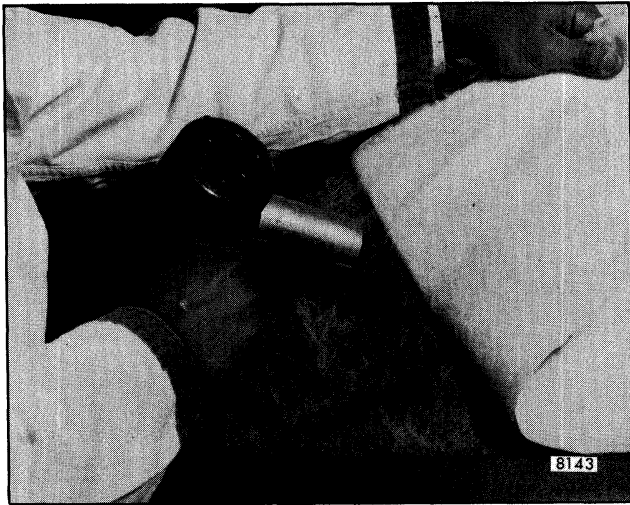

Fig. 8-53-Separating Wrinkled Area from Roof Panel - Heat Application
7. Separate the wrinkled area from the roof panel by either applying heat with a hot air gun while simultaneously pulling on the roof cover (Fig. 8-53), or by carefully separating the integral pad from the roof panel with a flat-bladed tool such as a putty knife (Fig. 8-54).